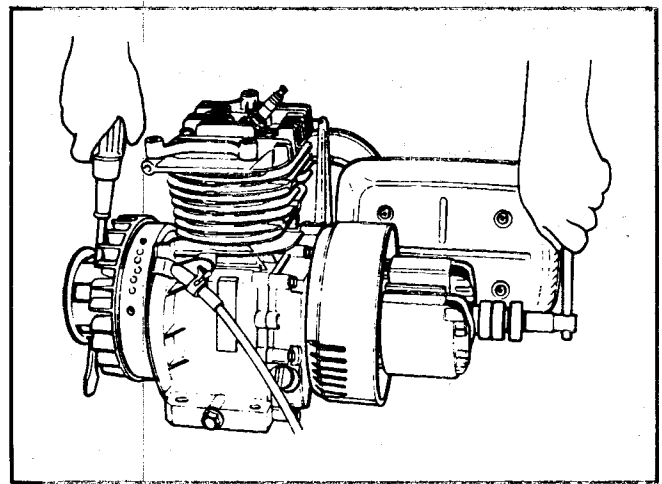

Figure 145
11. Hold the crankshaft in place with a screwdriver or bar through the recoil starter cup and remove the rotor set bolt. See Figure 145.